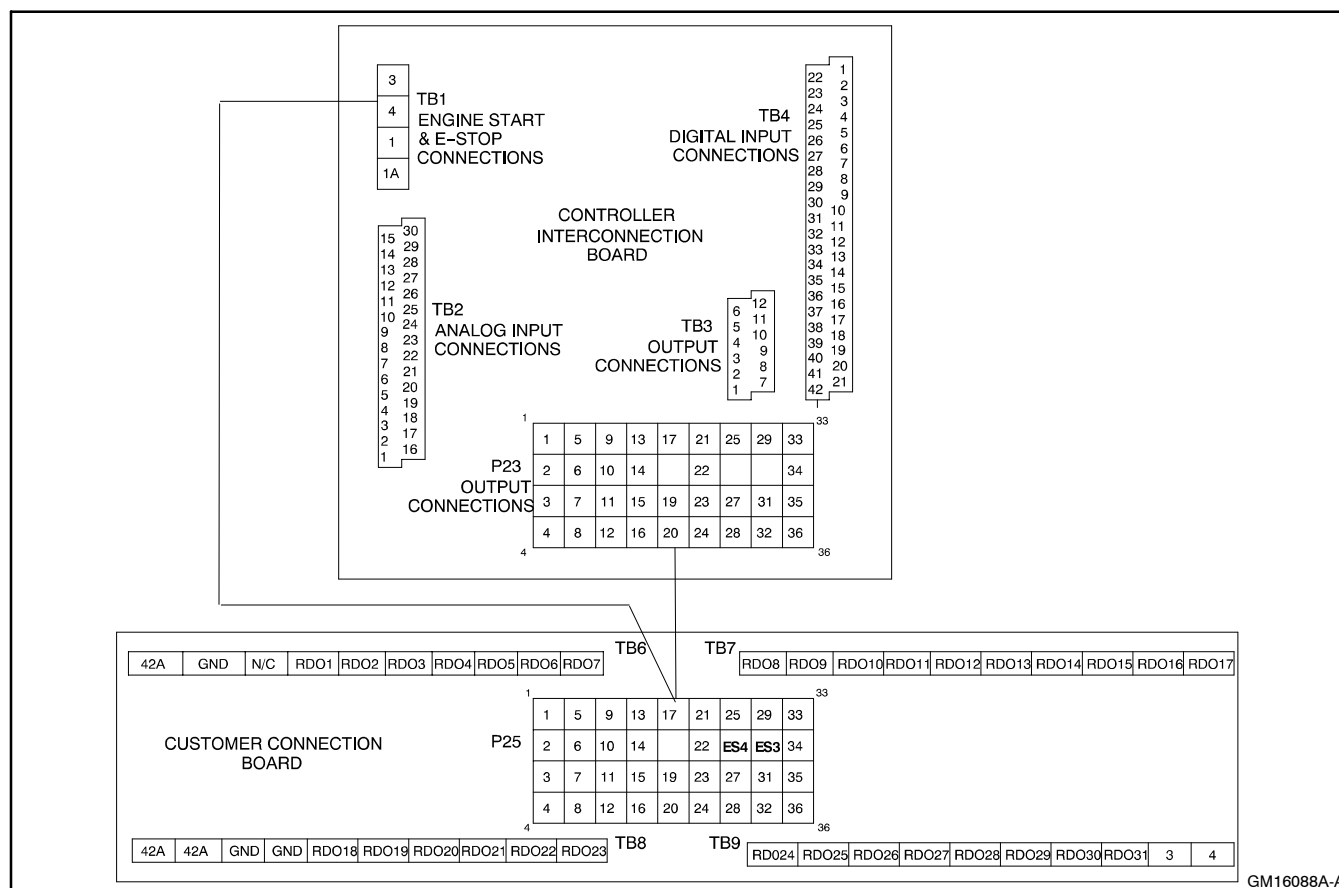

Figure 5 Controller Connection Kit
- 3.3 Route the leads to the controller connection assembly in the generator set junction box. Cut leads to length, strip lead ends, crimp on spade terminals (not supplied), and connect the leads to the screw terminals shown in Figure 5 and Figure 6. Keep the customer-supplied device wiring away from the generator set output leads.